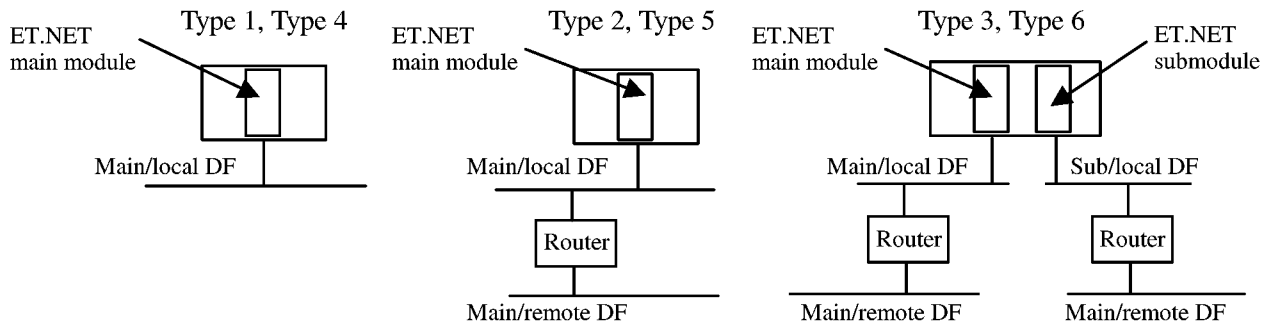

Figure 5-1 Type and Data Field
- (1) As indicated in Figure 5-1, Types 1 through 6 must be selectively used in accordance with the network configuration and the data field to access.